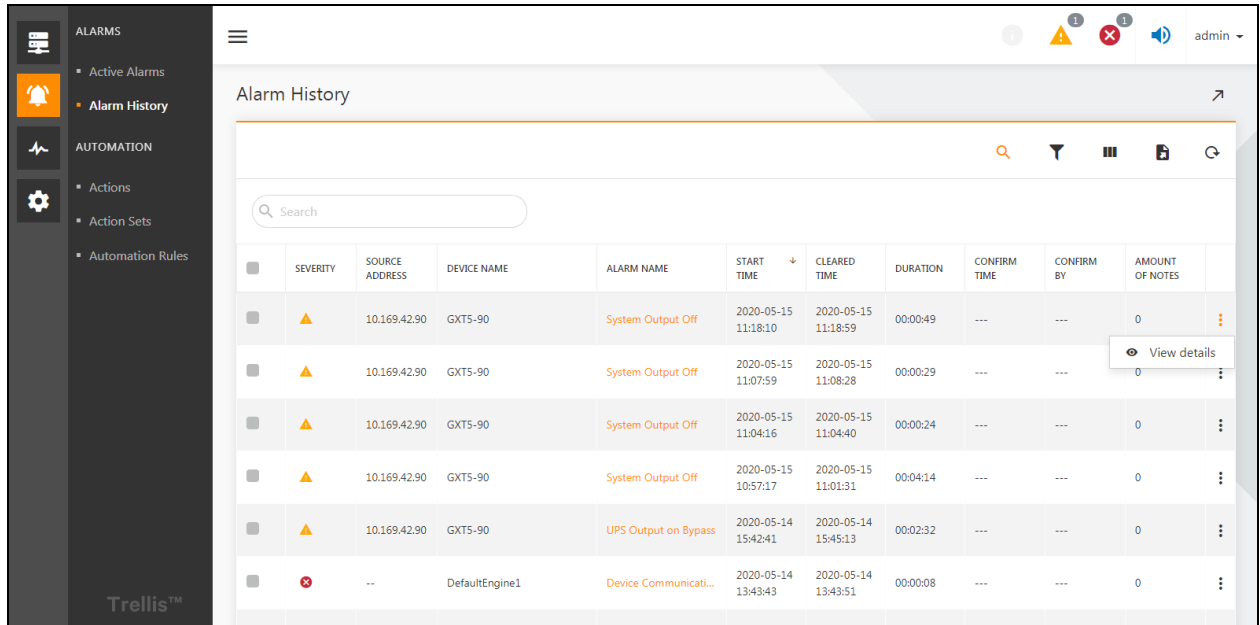

Figure 6.7
1. As shown in **Figure 6.7** on the next page, on the active alarms or alarm history page, click the  button on the right side of a warning line and click to view the details.
The contents of the file after download are shown in Figure 6.14 on the facing page. The header field contained in the file is consistent with the selection in Figure 6.7 on page 50.